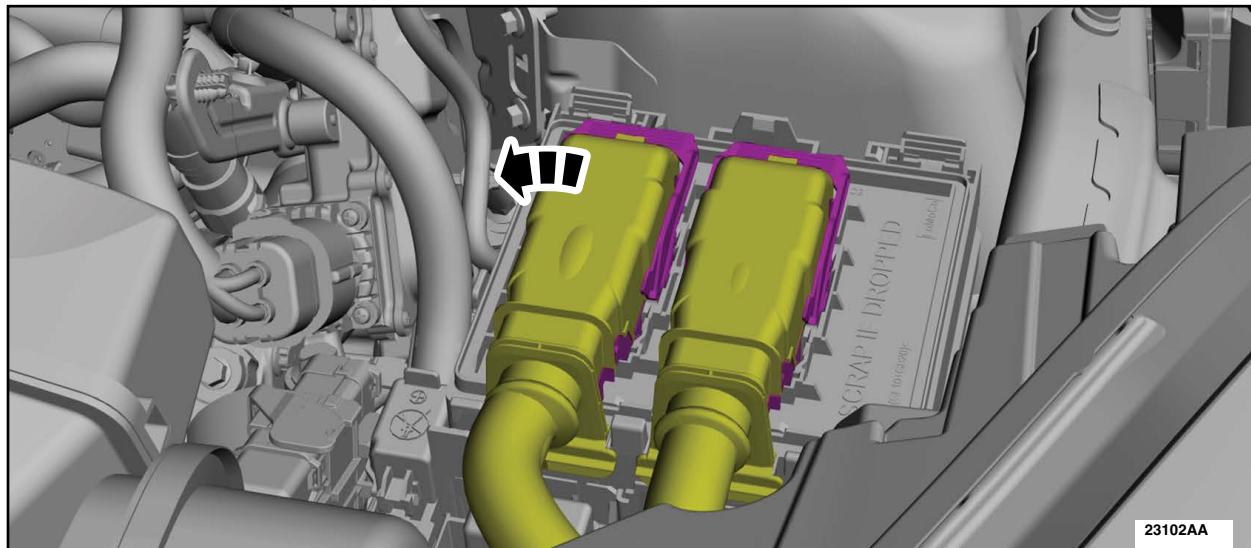

FIGURE 4
5. Disconnect the battery junction box electrical connector, C1035A. See Figure 4.